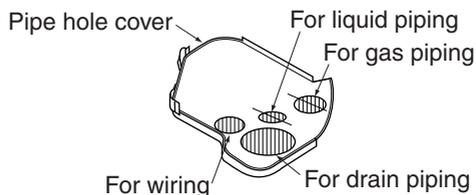

Fig. 24
- Once piping are rigged, cut the pipe hole cover to size and reattach. Use scissors for cutting. (Refer to Fig. 24)